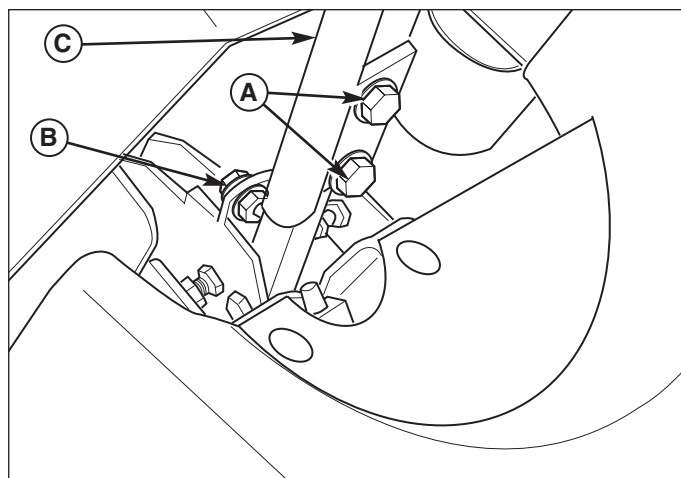

Figure 37. Control Lever Adjustment
Loosen the mount bolts (A, Figure 37) and pivot the levers (C) to align with each other.